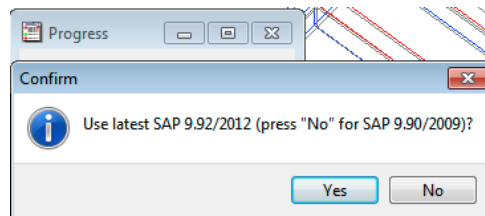

Figure 7: Selecting SAP 9.92 (2012) or SAP 9.90 (2009) on import
- SAP 2012 (V9.92): suitable for Part L 2013 England and part L 2014 Wales. Click **Yes** at the **Confirm** dialogue (Figure 7).
- SAP 2009 (V9.90): suitable for current building standards and regulations in Scotland and Northern Ireland. Click **No** at the **Confirm** dialogue (Figure 7).